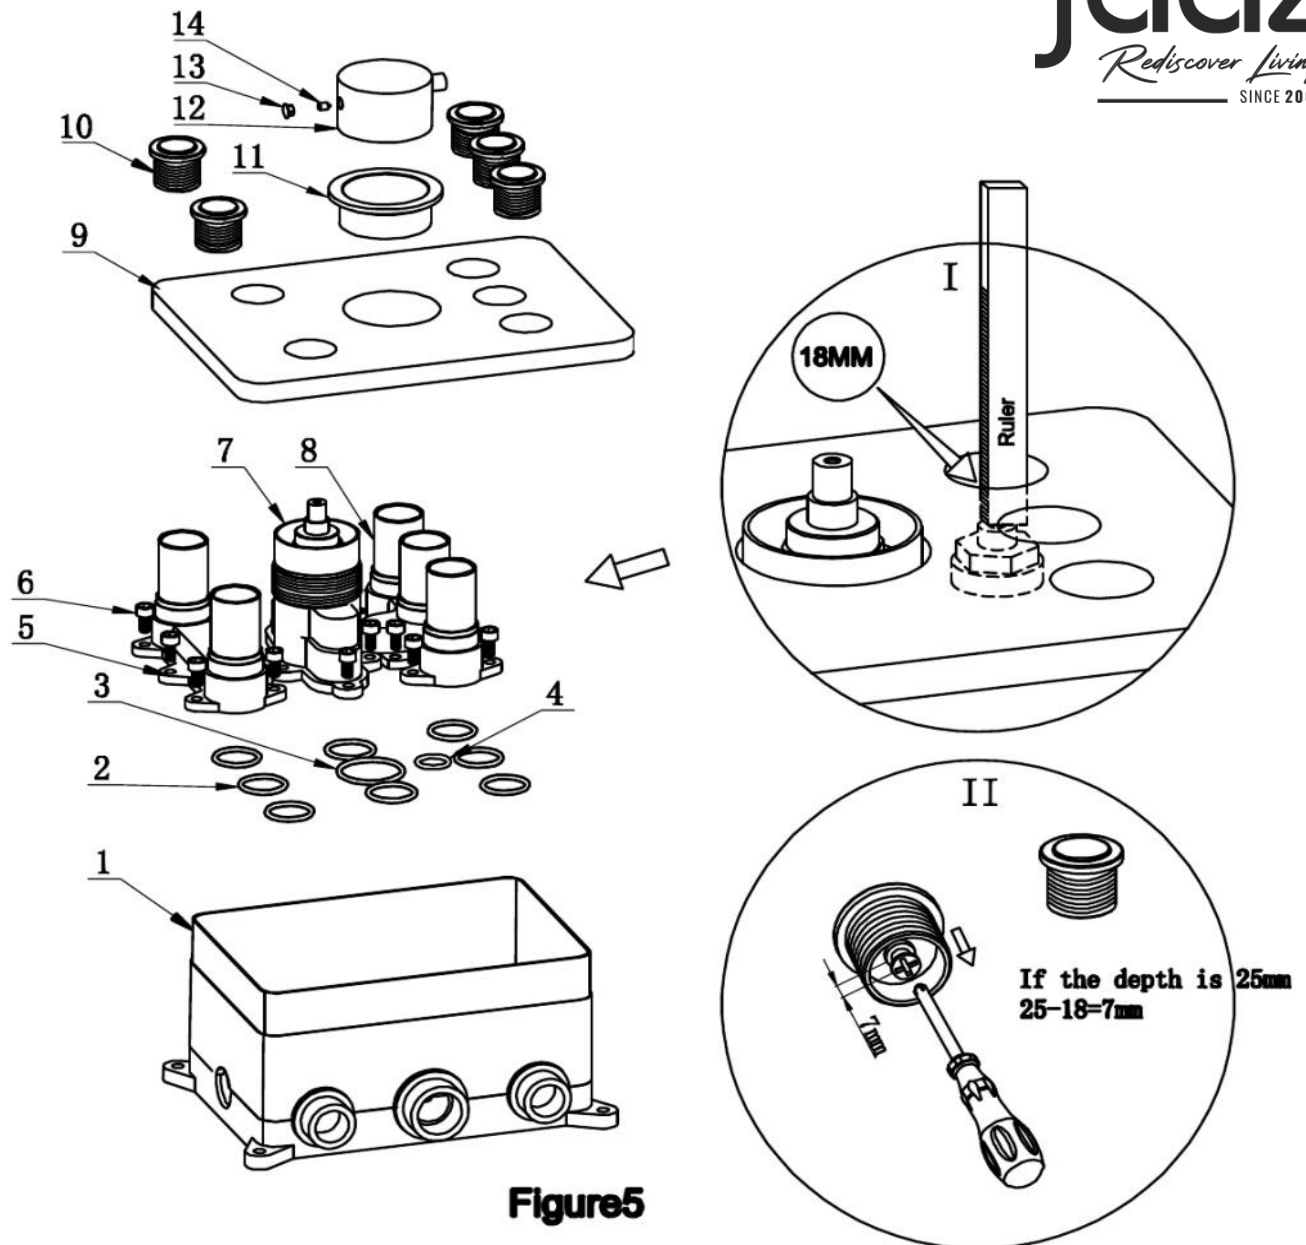

Figure5
- e. Based on the functions of the faucet outer pipe, install 5,7,8 on the faucet body (see figure 5)**